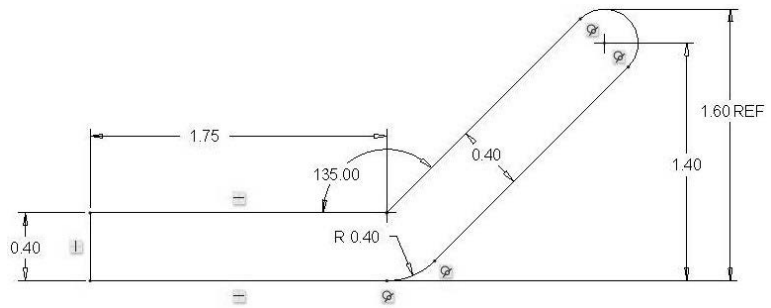
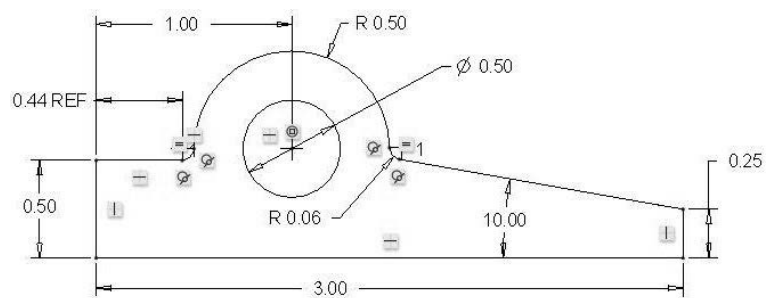
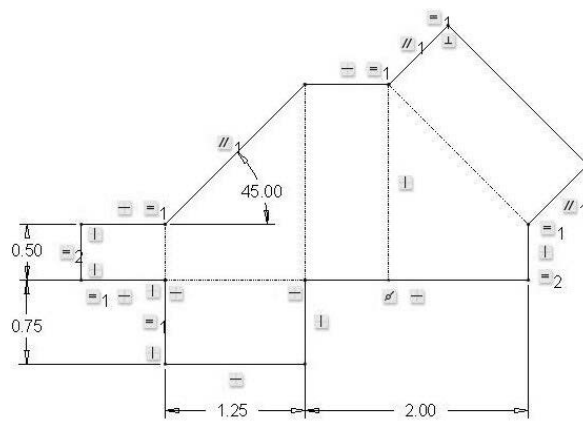

Figure 3-41 Control Bracket
Figure 3-42 Angle Bearing
Figure 3-44 Pattern with Phantom Lines
Step 48: At this point we have covered most of the commands found in sketcher. Use your knowledge to draw and dimension the following figures, Figures 3-41, Figure 3-42, and Figure 3-44.
Step 49: Draw control bracket side view (Figure 3-41).
Step 50: Draw angle bearing side view (Figure 3-42).